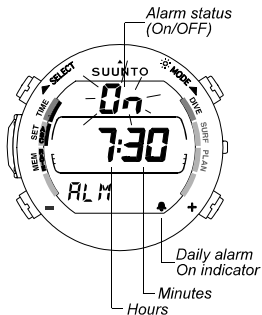

Fig. 5.7 Daily Alarm Setting Mode is activated
2. Wait two seconds until the Daily Alarm Setting Mode activates automatically. The time mode indicator appears and the alarm status [On/OFF] starts to blink on the display (Fig. 5.7). The alarm status [On/OFF] is blinking because it is selected.